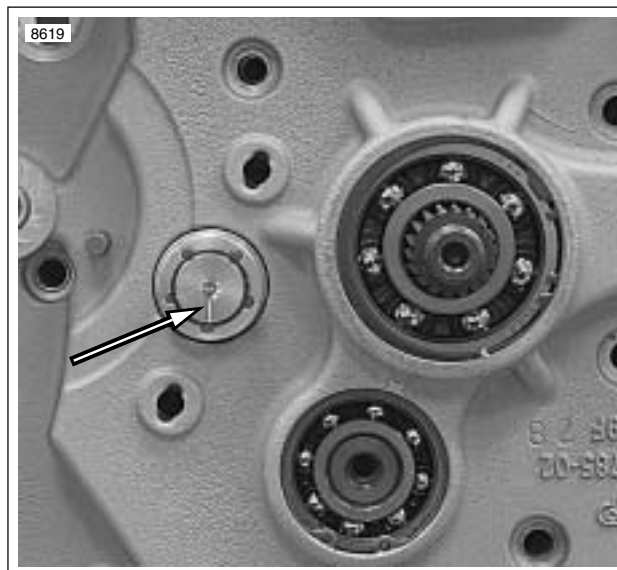

Figure 6-90. Scribed Line on Shifter Drum at 6 O'clock (Transmission in 4th Gear)
3. See Figure 6-90. Place Transmission in the 4th gear position. The scribed line on the shifting drum should be at 6 o'clock.